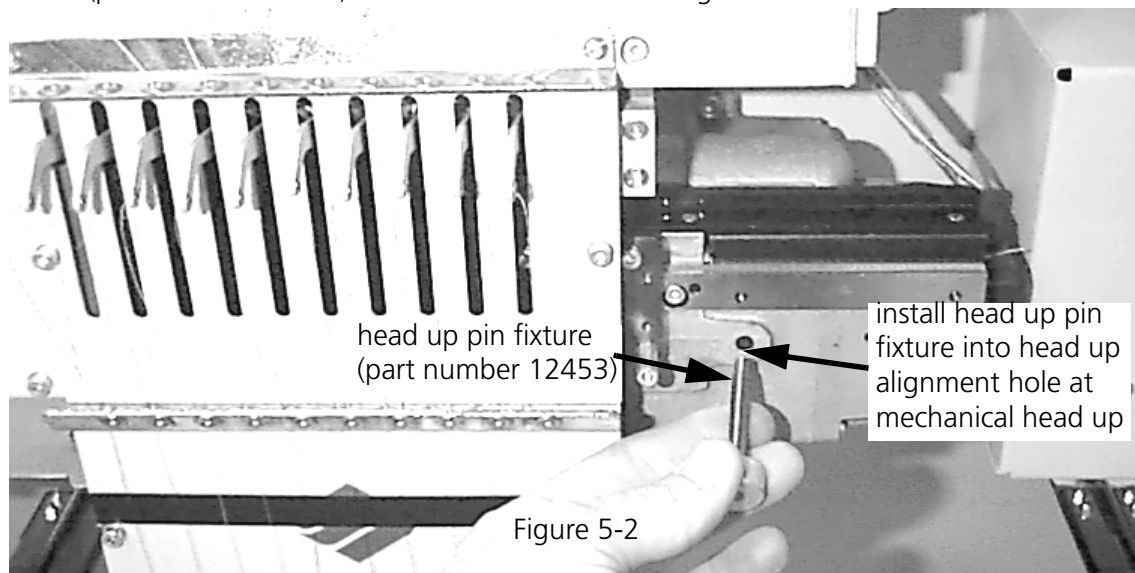

Figure 5-2
3. Locate the head up alignment hole in the front of the head casting and position the head up pin fixture (part number 12453) into the hole as shown in Figure 5-2.